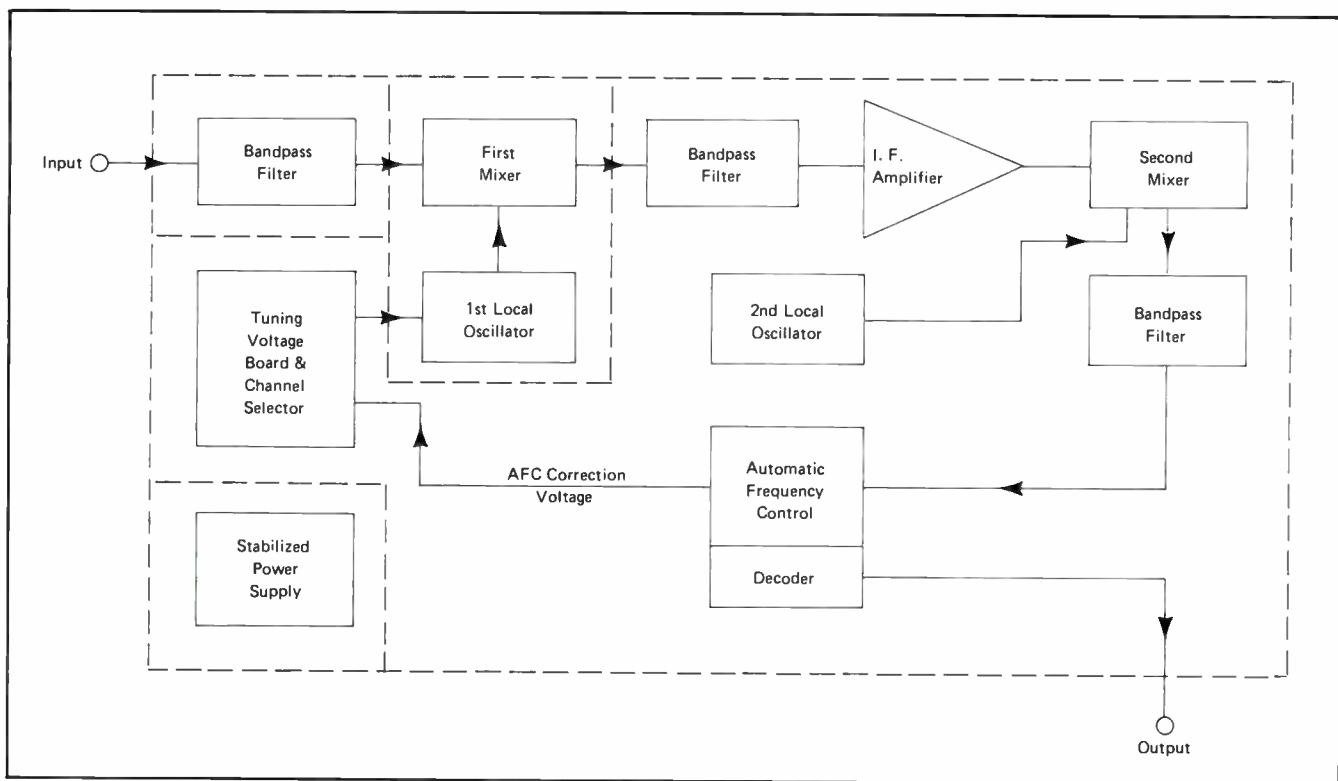

Figure 7. Oak Multi-Code Converter/Decoder Functional Block Diagram
**MULTI-CODE.** The converter-decoder used in this system (Figure 7) gives the cable system operator the option of predetermined selection of any number of pay TV channels up to a total of 31, in his choice of remote or set-top style for channel selection. A keylock will be installed for parental control of premium channels, if desired. A single rotary switch controls both the standard and premium channel selection. The latter channels are unscrambled automatically. As in all Oak varactor converters, automatic frequency control stabilizes the output channel frequency.